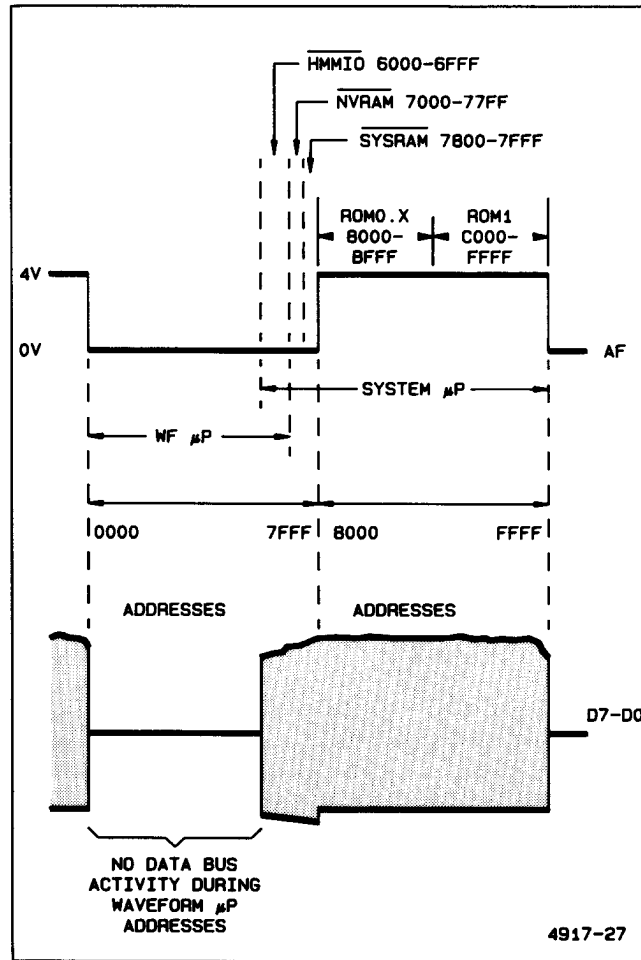

Figure 6-10. System  $\mu$ P data bit D7 in the Bus Isolate mode.
3. Check that no data bus activity is occurring during the Waveform  $\mu\text{P}$  address space (see Figure 6-10 to compare against). Faulty address decoding can cause response from an incorrectly addressed device.